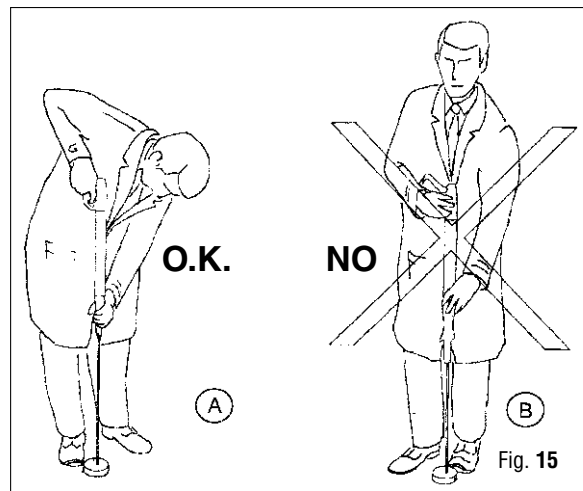

Fig. 15
26. Insert the line release (42) into the handle with the line release lever oriented towards the same side as the power adjustment lever. Align the hole in the line release (42) with the hole in the handle and install line release pin
27. On Competition Line guns starting from serial number 92296000 forward, place bushing (47) and o-ring (46) on tool A-22 (Fig. 15).
28. Insert bushing (47) and o-ring (46) into the handle (41). Gently tighten the bushing (47) into its housing in the handle with tool A-22.
FOR THE NECESSARY INSPECTION TO BE PERFORMED, THE SHAFT MUST BE INSERTED INTO THE SPEARGUN. FOR YOUR SAFETY, FASTEN THE SHAFT INTO A FLOOR BASE. WHEN THE SHAFT IS INSERTED, ALWAYS MAINTAIN PRESSURE ON THE SPEARGUN WITH BOTH HANDS AND KEEP THE HANDLE UNDER YOUR SHOULDER (FIG. 15-A), NEVER UNDER YOUR FACE (FIG. 15-B). DO NOT PERFORM ANY ADJUSTMENT OR LEAVE THE GUN UNATTENDED WHEN THE SHAFT IS INSERTED. FAILURE TO FASTEN THE SHAFT INTO A FLOOR BASE OR MAINTAIN PRESSURE ON THE SPEARGUN WITH BOTH HANDS AND KEEP THE HANDLE UNDER YOUR SHOULDER (FIG. 15-A) WHEN THE SHAFT IS INSERTED, COULD RESULT IN THE SPEAR SHAFT AND/OR SPEARGUN BEING PROPELLED UNCONTROL-LABLY, IF THE TRIGGER IS PULLED OR THE SPEARGUN FIRES UNEXPECTEDLY AND COULD RESULT IN SERIOUS INJURY OR DEATH.
1. Using a floor base, insert the shaft until the piston engages the catch hook (Fig. 15-A).
2. Using a floor base, insert the shaft until the piston engages the catch hook (Fig. 15-A).
5. Using a floor base, insert the shaft until the piston engages the catch hook (Fig. 15-A). The effort exerted by the speargun should be the same as it was 2 hours previous. A decrease in the effort would indicate a leak in the speargun. An increase in effort would indicate an internal leak past the power regulating block.